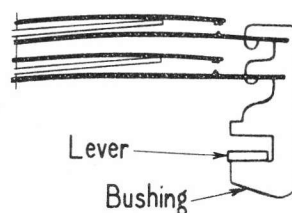

Fig. 16
6.03 Position of the springs when the handset is on the cradle is shown in Fig. 16. Note that the springs are approximately parallel having a gradual bow and no sharp bends. Clearance between contact points is approximately .060 inch.